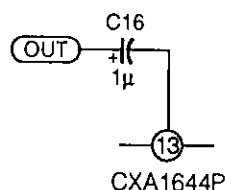

Fig.1
- Fig. 1 shows the polarity of C16 when the DC operating point of the OUT pin is higher than  $V_{cc}/2$  of the CXA1644P.
- When the DC operating point of the OUT pin is equal to  $V_{cc}/2$  of the CXA1644P, either of Figs. 1 and 2 will do.